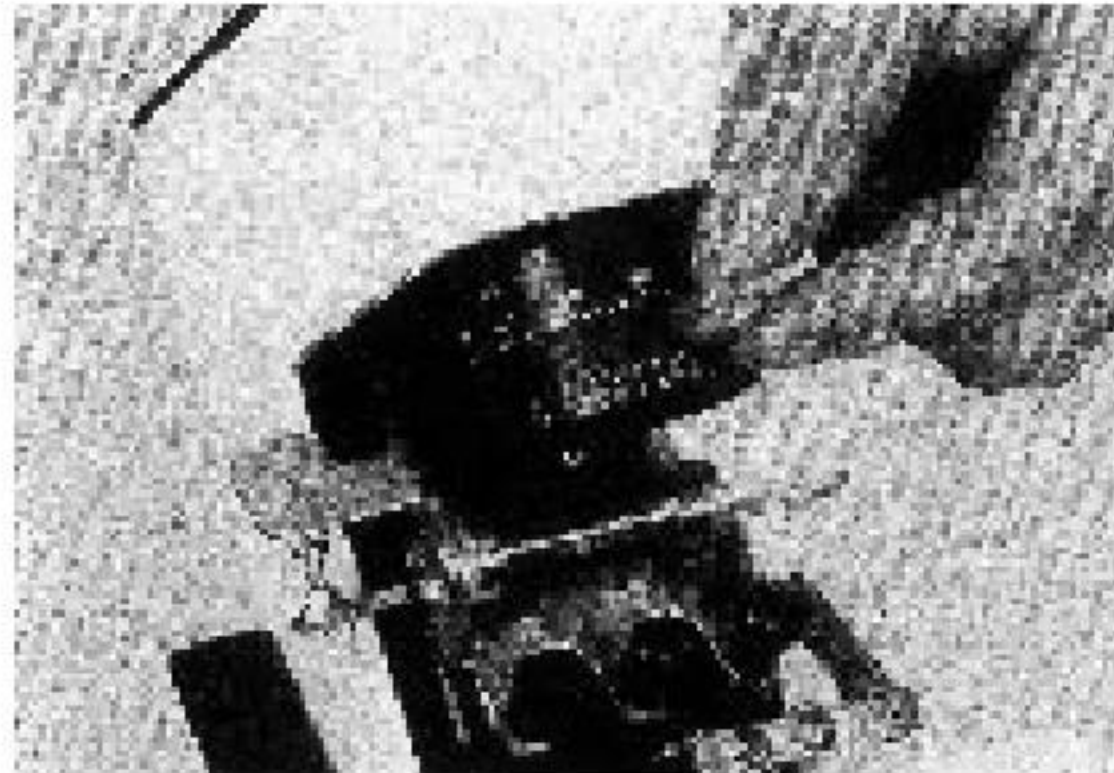

Fig. 6
*3.4 Prism compensation device (Fig.6)